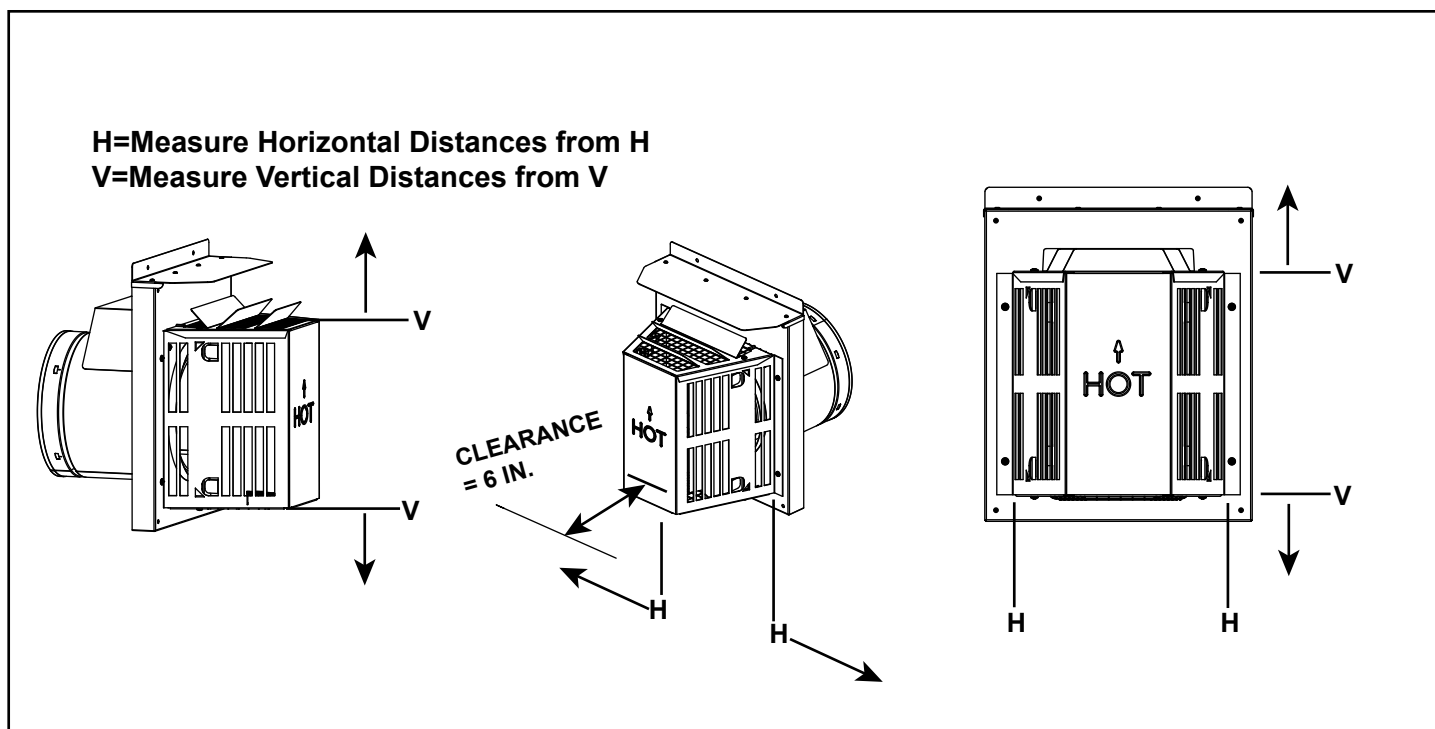

Figure 4.3
- Measure horizontal and vertical termination cap clearances as noted in Figure 4.3 and 4.4.